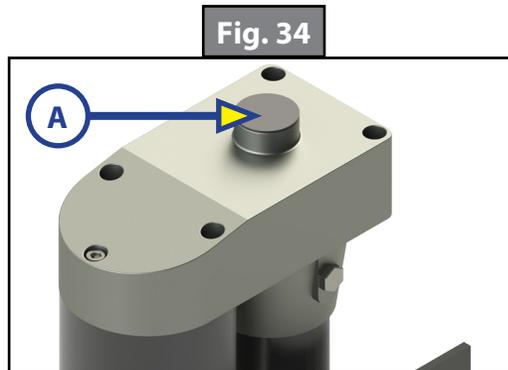

Fig. 34
2. Remove the rubber plug (Fig.34).